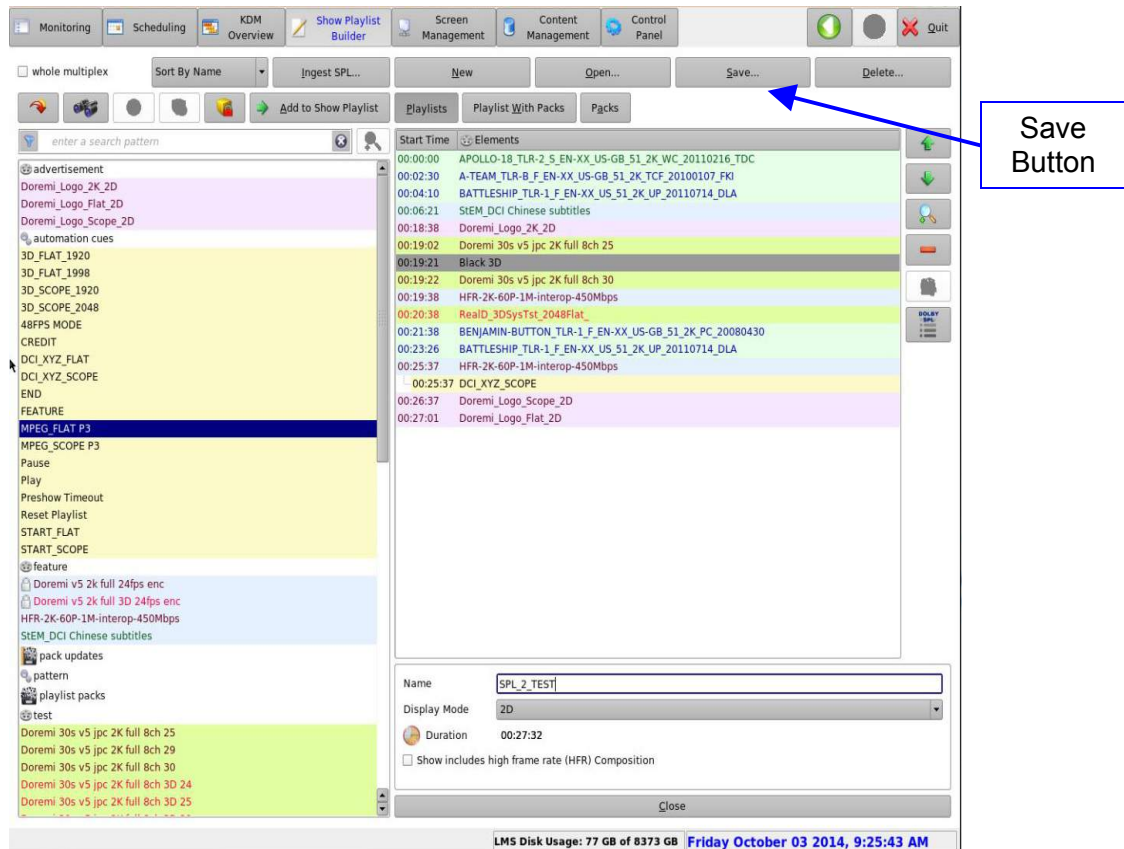

Figure 53: SPL Name and Display Mode Settings
- If necessary, change the name of the SPL and set to 3D SPL or 2D SPL using the Display Mode list box (Figure 53).
- Click the Save button, located on the top of the tab, to record the SPL settings (Figure 53).